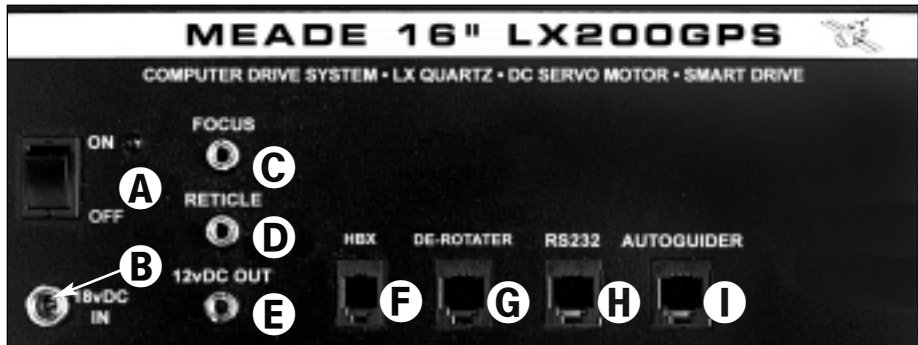

Figure 43: 16" LX200GPS Computer Control Panel.
18vDC Power Connector (B, Fig. 43): Provides a connection so that the telescope assembly may be powered from a standard 115v AC home outlet using the supplied Power Adapter.
The De-Rotater port (G, Fig. 43), for use in altazimuth alignment, allows you connect the optional #1222 Field De-Rotater for long-exposure astrophotography by eliminating the image rotation inherent in altazimuth tracking. See **OPTIONAL ACCESSORIES**, page 43.
12 vDC Output (Fan) Port (E, Fig. 43) is used to power the fans located on the optical tube assembly (OTA). The fans evacuate the warm air trapped inside the tube, allowing for faster cool-down.
- a. Confirm that the power switch (A, Fig. 43) on the power panel is in the OFF position. Connect the power adapter to the 18vDC connector (B, Fig. 43).
- c. Connect the Autostar II handbox to the HBX connector (F, Fig. 43) on the control panel.
- d. Connect the supplied coil cord from the fan to the 12vDC output jack (E, Fig. 43) on the control panel.